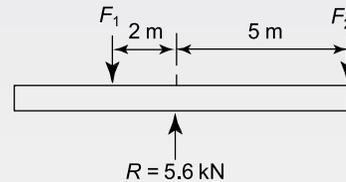

Figure RT2.1
8. Determine by resolution of forces the resultant of the following three coplanar forces acting at a point: 120 N acting at 40° to the horizontal; 250 N acting at 145° to the horizontal; 300 N acting at 260° to the horizontal. (8)
9. A moment of 18 N m is required to operate a lifting jack. Determine the effective length of the handle of the jack (in millimetres) if the force applied to it is (a) 90 N (b) 0.36 kN (6)
10. For the centrally supported uniform beam shown in Figure RT2.1, determine the values of forces F_1 and F_2 when the beam is in equilibrium. (7)